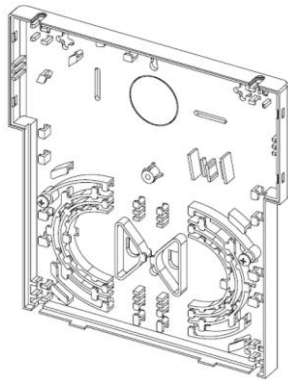

Figure 4. Cable tray base
Step 1. Check the cable tray kit. Your cable tray kit should contain two items (Figure 4, 5) or four items (Figure 4, 5, 6, 7) depending on the order you placed. Each item is provided below graphically.